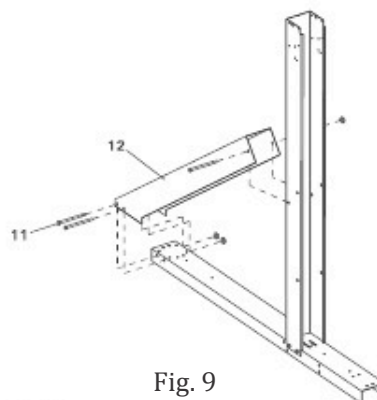

Fig. 9
C) Once all of the straight side uprights are attached, you can begin attaching the struts. This is done by pushing the angled end of the strut (the end with two holes on each side) over the end of the strap end channel and the other side around the straight side upright. The hole on each side of the strut lines up with the hole in the straight side upright that is farthest from the open end of the straight side upright. The two holes on the other end of the strut line up with the only two holes in the back end of the strap end channel. Secure the struts using three 5/16" x 5" bolts and three 5/16" nuts. See Fig.9 for visual instructions.